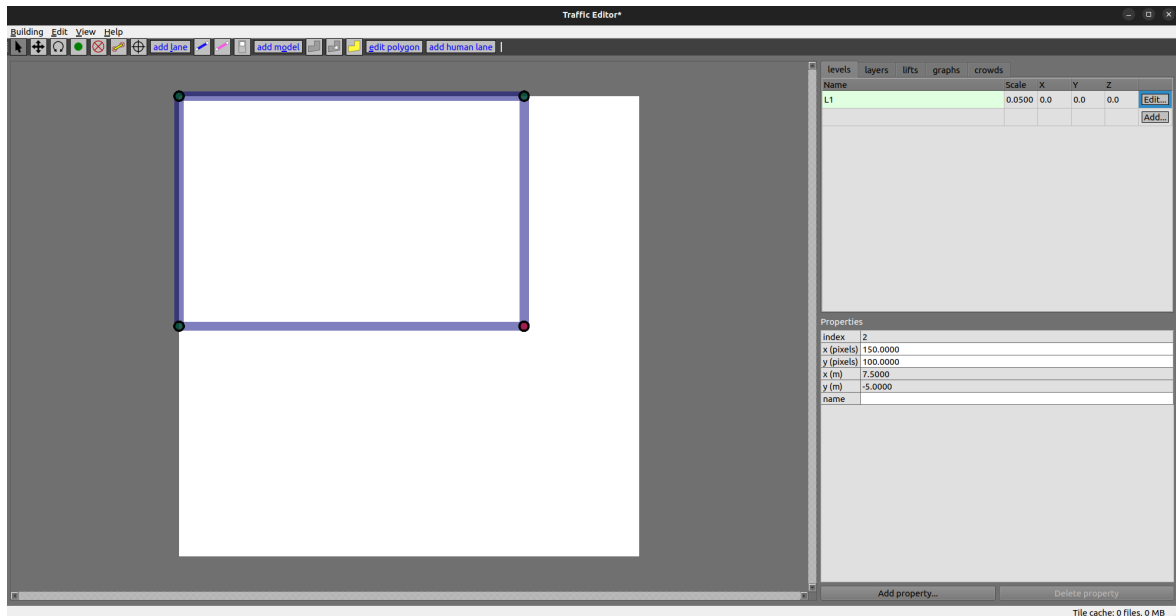

Figure 5: Aligning Walls
- Since this process is manual there is always error in the placement so we need to fix the position of the vertices manually. Select the top-left vertex using the select tool (cursor button or press 'Esc') and check its properties on the bottom-right panel. You will notice the 'x (pixels)' and 'y (pixels)' values. Set both to 0 and align the other three vertices to create a rectangle with a size of 100x150 as reflected in Figure 5.